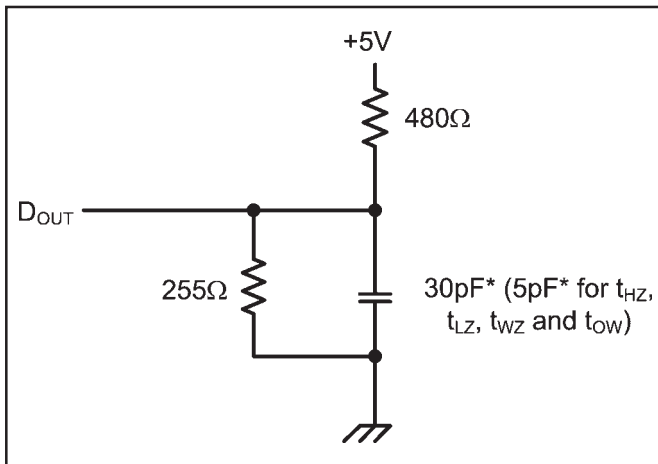

Figure 1. Output Load
7. Transition is measured $\pm 200\text{mV}$ from steady state voltage prior to change with specified loading in Figure 1. This parameter is sampled and not 100% tested.
- 13. Transition is measured $\pm 200mV$ from steady state voltage prior to change with specified loading in Figure 1. This parameter is sampled and not 100% tested.
| Output Load | See Figures 1 and 2 |